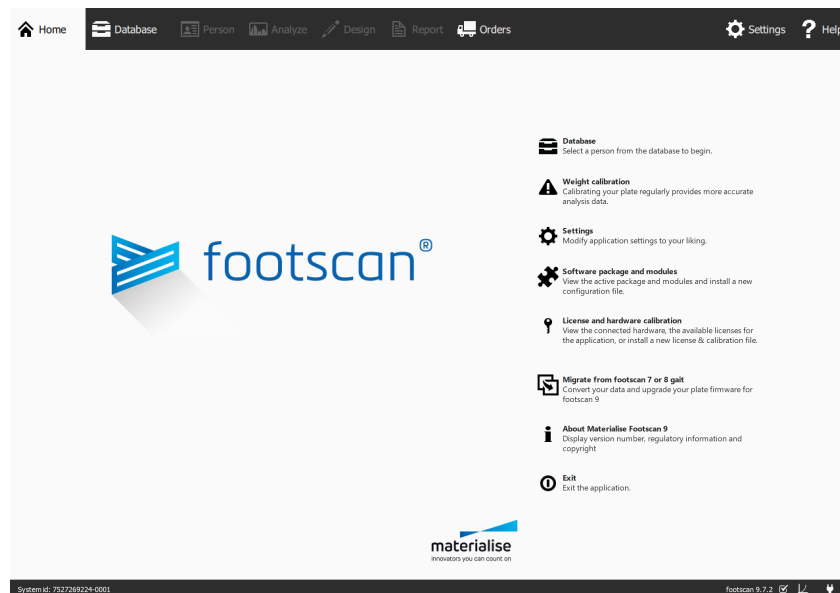

Figure 10: The license and hardware calibration dialog can be opened in the home screen.
2. By clicking the **License and hardware calibration** button in the Homescreen (Figure 10). More information about the home screen can be found in section 6.